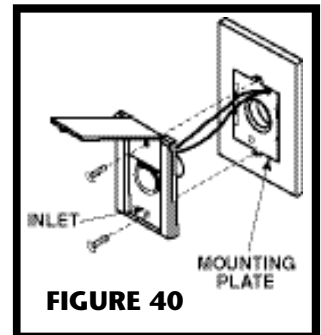

FIGURE 40
6. Refer to Figure 40. Align inlet mounting holes with mounting plate holes, place inlet into mounting plate, and secure with provided screws.